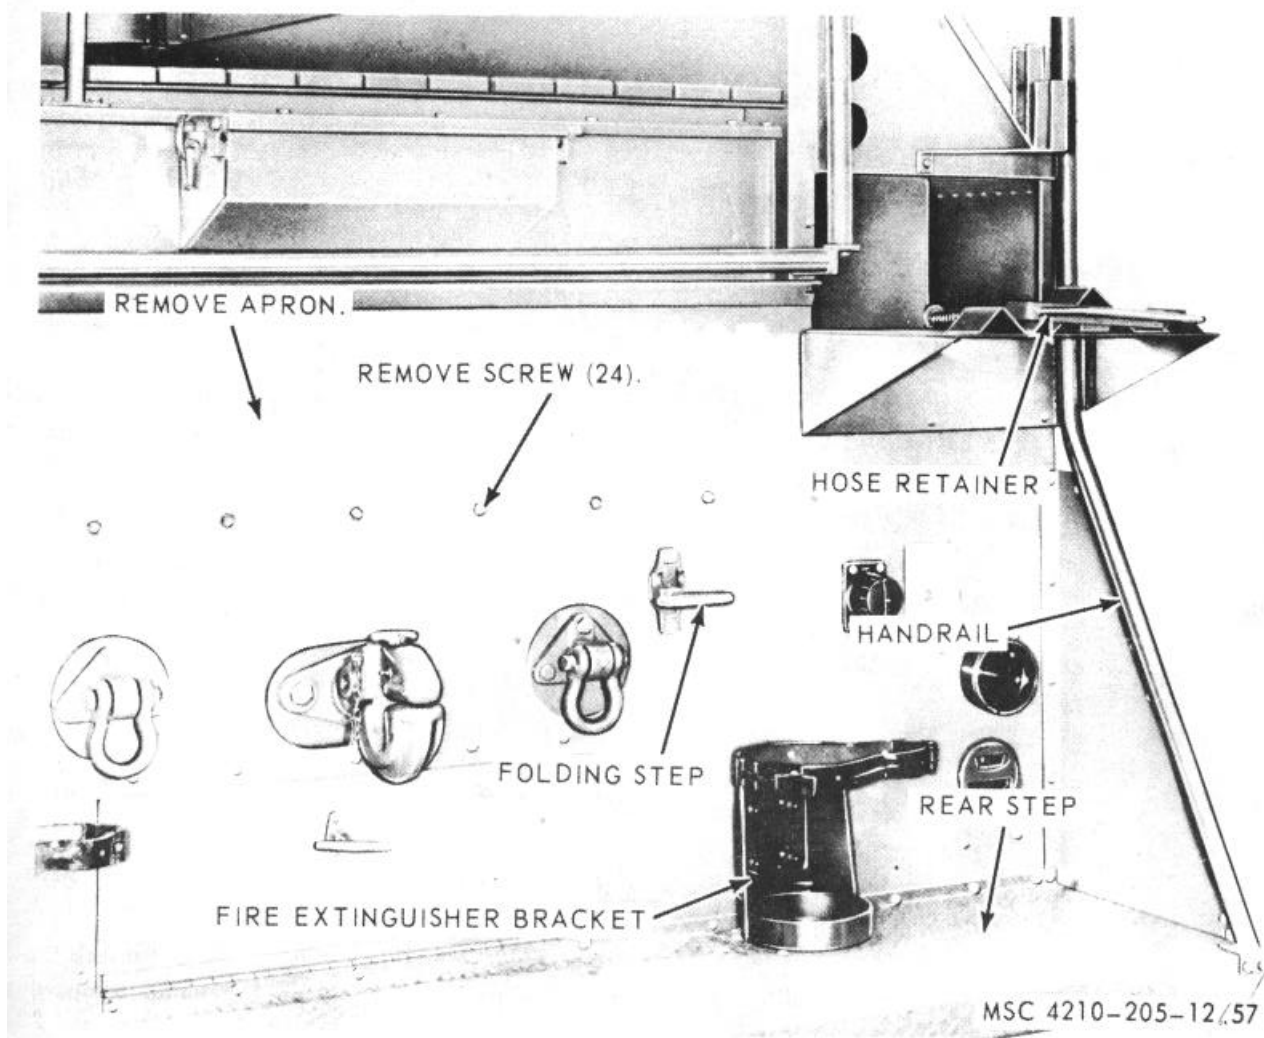

Figure 57. Apron, removal and installation.
- (2) Remove the rear step (para. 61).
- (3) Remove the hose retainers (paras. 64 and 65).
- (4) Remove the receptacles (para. 111).
- (5) Remove the shovel bracket (para. 62).
- (6) Remove the folding step (para. 66).
- (7) Refer to figure 57, and remove the apron from the special purpose body.
- (1) Refer to figure 57, and install the apron on the special purpose body.
- (2) Install the folding step (para. 66).
- (3) Install the shovel bracket (para. 62).
- (4) Install the receptacles (para. 111).
- (5) Install the hose retainers (paras. 64 and 65).
- (6) Install the rear step (para. 61).
- (7) Install the rear directional and taillights (paras. 109 and 110).